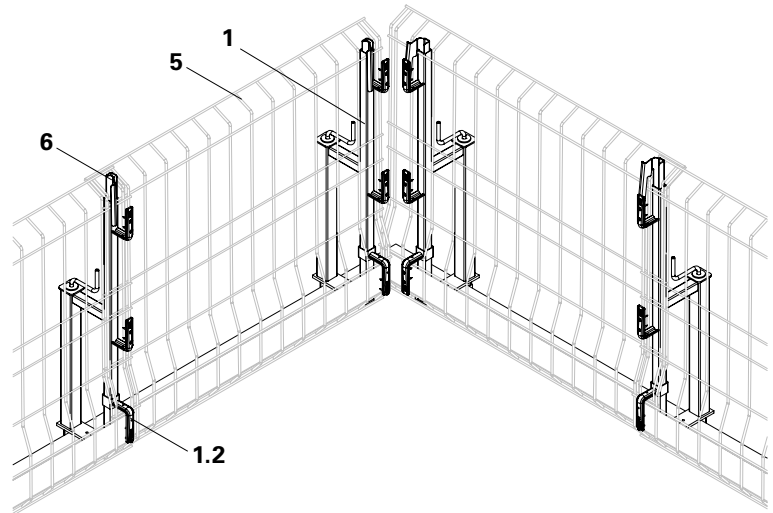

Fig. A3.03
5. Install the Side Mesh Barrier PMB (5) from above in the Guardrail Holder-2 (1).
6. Position the Side Mesh Barrier PMB (5) in the L-angles (1.5).
- (Fig. A3.03/A3.04)